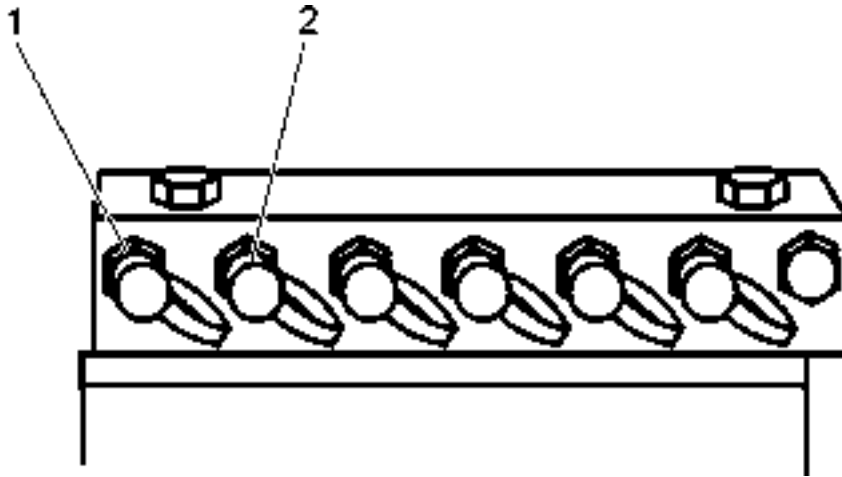

Fig. 3.2. Diagnostic Center – Tow and Pressure Check Ports
The diagnostic center (Fig. 3.2) has a quick couplers  $R_B$  and  $L_B$  for application of external hydraulic pressure to the LH and RH brake spools to release them prior to towing as described in the procedure specified below.
2. Open the diagnostic center cover on the LH side of the machine and connect a lubricating fitting and pressure gauge to one of the quick couplers (port 1 or 2, Fig. 3.2).